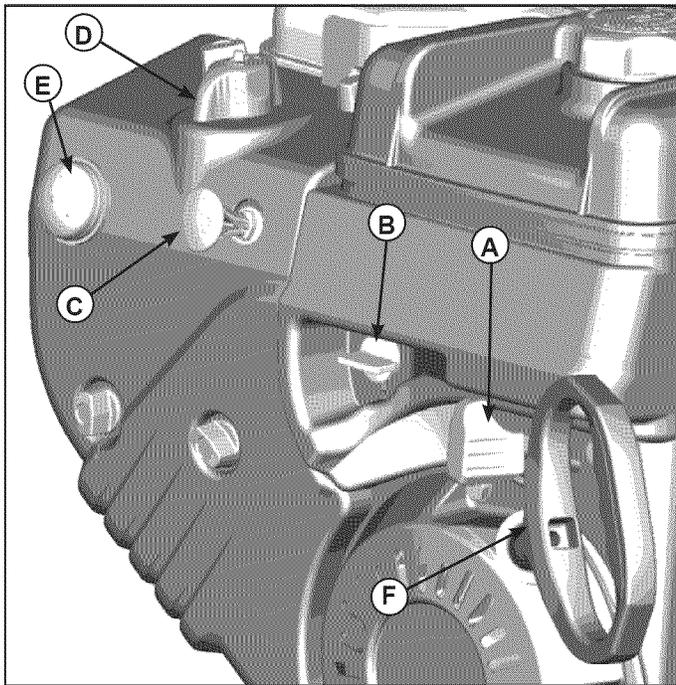

Figure 19. Engine Start/Stop
Or move the throttle control lever (A, Figure 19), if equipped, to the FAST position. Operate the engine with the throttle control lever in the FAST position.
4. Turn the fuel shut-off valve (B, Figure 19), if equipped, to the ON position.
5. Push in the safety key (C).
6. Turn the choke control knob (D) to the choke position.
7. Push the primer button (E) two times.
8. **Rewind Start:** Firmly hold the starter cord handle (F). Pull the starter cord slowly until resistance is felt, then pull rapidly.
Or move the throttle control lever (A, Figure 19), if equipped, to SLOW and then to the STOP position.